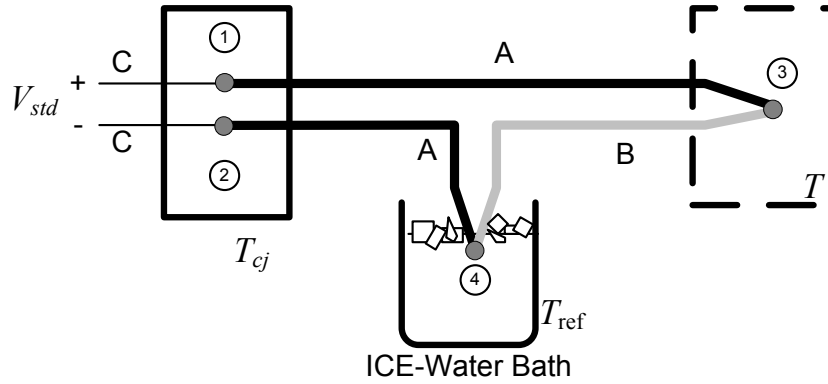
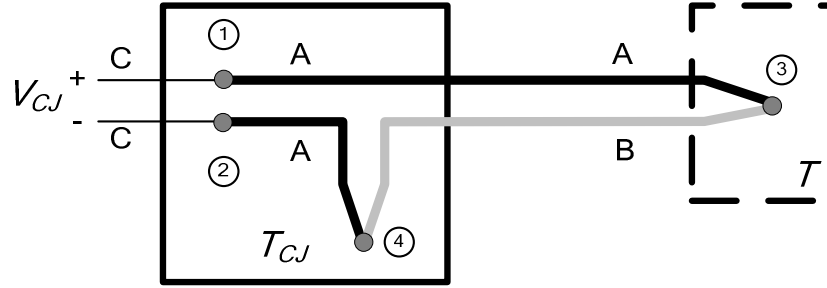
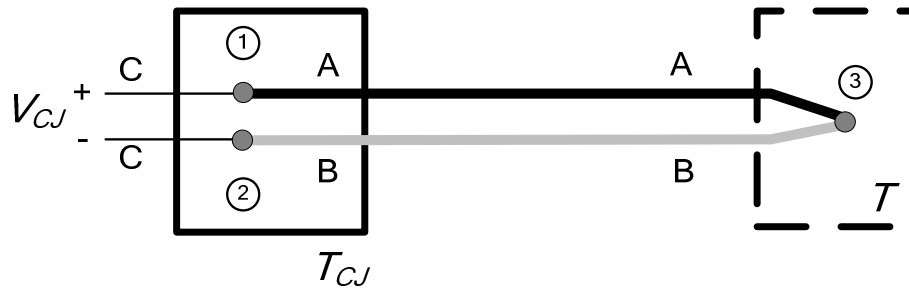

Figure A1.
Figure A2.
Figure A3.
The classical thermocouple configuration is one that uses an ice-water bath to set the reference temperature as shown in Figure A1. Points 1 and 2 are kept at the same temperature by using an “isothermal block”, which is an insulator used to make sure that both points are at the same temperature T_{CJ} , often referred to as the “cold-junction” temperature.
The voltages across points 1, 2, 3 and 4 in Figure A1 are given by Seebeck voltages V_1 , V_2 , V_3 and V_4 , respectively. Note that $V_1 = -V_2$, since points 1 and 2 are at the same temperature but the metals are polarized in opposite directions. Further, points 3 and 4 also involve the same pair of metals but polarized in the opposite directions, i.e. $\alpha_{AB} = -\alpha_{BA}$. Applying Kirchoff's law and Seebeck's law given in equation (1),
The configuration given in Figure A1 is not convenient in most practical applications because of the burden of maintaining the ice-water condition of the bath. As an alternative, one could change the reference to be T_{CJ} , the “cold-junction” temperature present in the leads, as shown in Figure A2. This changes equation (A1) to be
The configuration given in Figure A2 can be simplified further by applying the law of intermediate metals (see section I.A.2) in the sub-circuit involving points 2 and 4. Metal A is an intermediate metal between metal C and B. Since points 2 and 4 are the same temperature, the law of intermediate metals state that metal A can be removed while merging points 2 and 4. This is the simplified cold-junction thermocouple configuration shown in Figure A3, where V_{CJ} measured in the configuration given in Figure A3 will be the same V_{CJ} measured as that in Figure A2.
Regardless of the configurations shown above, the main application of thermocouples is to measure the temperature T at point 3. As we had mentioned earlier, the data $V_{std}(T)$ is often available for many commercially available thermocouples. If configuration in Figure A1 is used, we need to just read off the value of T that correspond to the voltage $V=V_{std}$ measured at the leads.
For the simplified cold-junction configuration given in Figure A3, we can use equation (A2) together with available standard V_{std} data (table or function) as follows:
where T_{CJ} and V_{CJ} are the measured cold-junction temperature and voltage, respectively, shown in Figure A3.